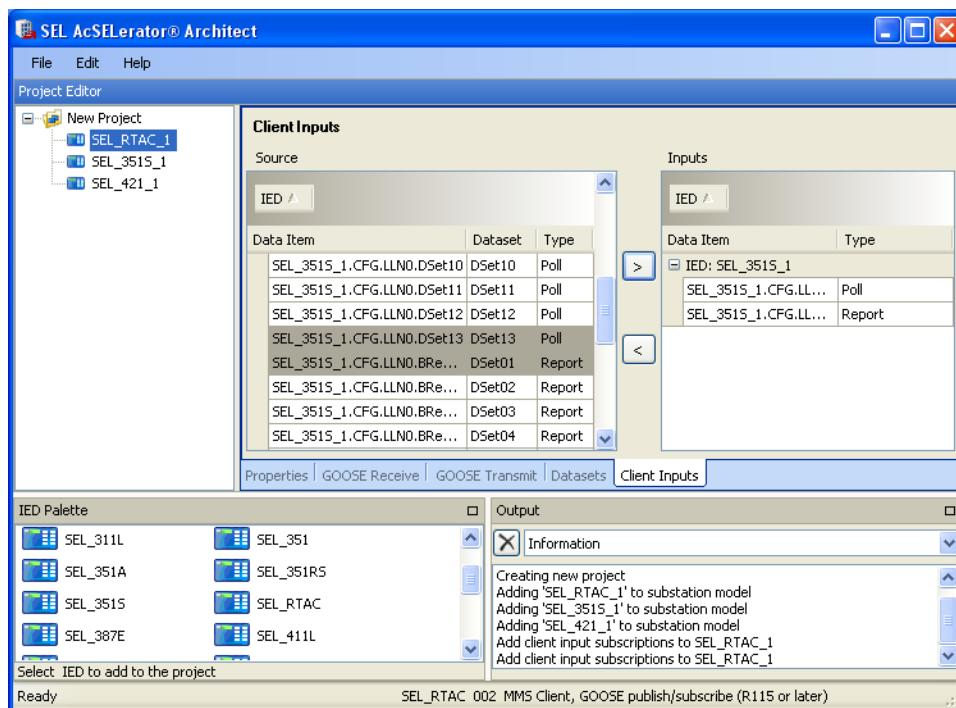

Figure 2.180 Configure IEC 61850 Messages
- Step 6. For MMS client configuration, click the **Client Inputs** tab. The Project Editor pane will display all DataSets and reports available from the IEDs. From the **Source** window, select the DataSets and reports you want the RTAC to gather from the IEDs and move these to the **Inputs** window tab. See *Figure 2.180*.